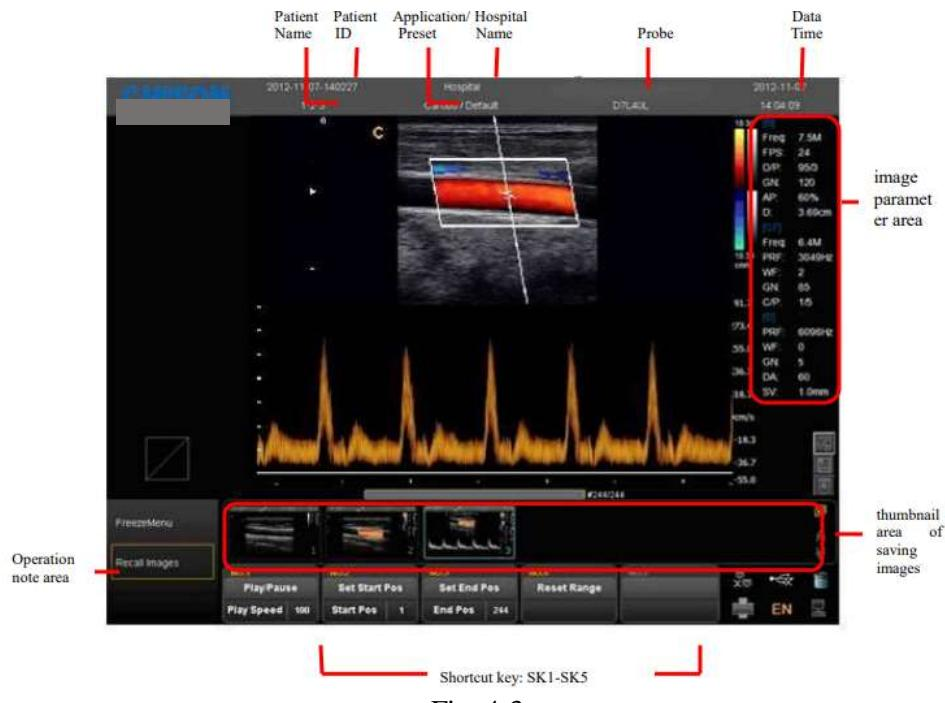

Fig. 4-3
- operation note area: The first line shows the status of the current system. The second line indicates the current function of the trackball. In the picture Fig. 4-3, the first line display "freeze menu". It means the system is in frozen status. The second line display "recall image". It means moving the trackball can recall the images in current status.